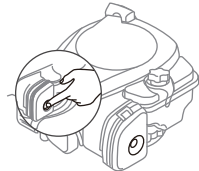

Fig.6B
2. Press the primer bulb 3 times before starting the engine. (Fig.6B)